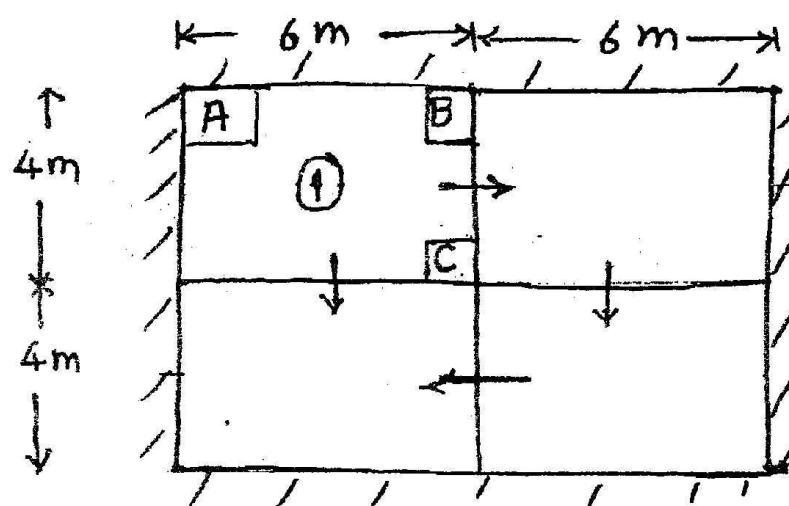

Fig. 2
- (b) In the Fig. 2, discuss the provisions for torsion reinforcement in panel (1) at corner A, B and C. Draw the neat sketch showing detailing of torsion reinforcement of these corners if the main reinforcement is as below :